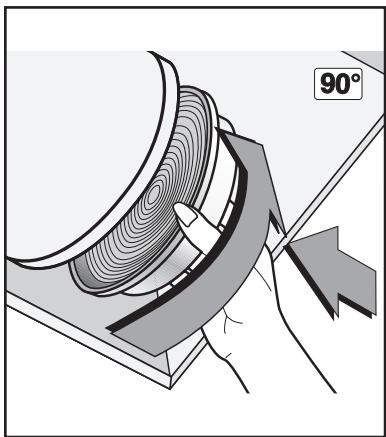
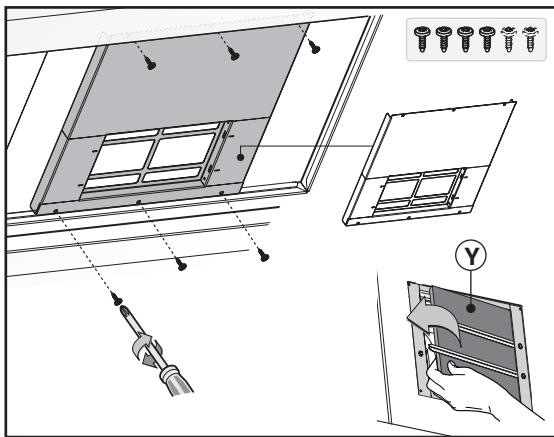

Fig.13
Fig.14
-To transform the hood from the **SUCTION** version to the **FILTERING** version, charcoal filters must be ordered from your dealer as an accessory. Two types of kit are available, one with non-renewable filters (Fig.13) and the other with renewable filters (washable) (Fig.14). Unlike traditional carbon filters, this carbon filter can be washed and reactivated for approximately 12-15 times. With normal hood use, this filter should be cleaned once every 2-3 months. The filter can be washed into a dishwasher at the highest temperature using a standard dishwasher detergent. After washing, dry the filter in the oven at 100°C for 10-15 minutes to reactivate it. The filter will retain its odour-absorbing capacity for three years, after which it will have to be replaced.
-If a bracket is found in the packaging like that indicated in Fig.14 loosen the screws already installed inside the hood and install the bracket using the previously-removed screws.
-To replace re-usable carbon filters **Y**, remove the brackets from their seat, pulling them outwards (Fig.14).